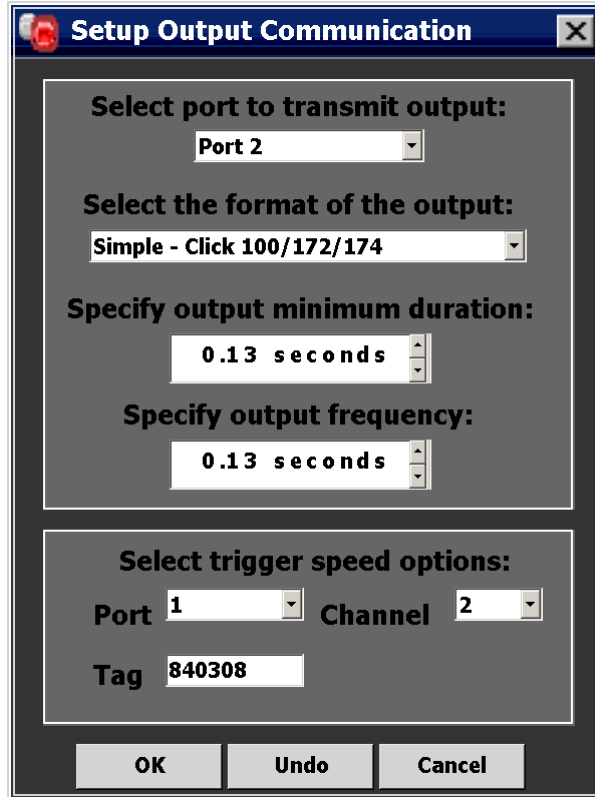

Figure 8: Wavetronix SmartSensor Advance Setup
4. In the Select trigger speed options area, use the dropdown next to **Port** to select the proper port to monitor for speed. This is usually the port that is not already selected in the top portion of this interface. For example, Figure 8 shows “Port 2” selected in the “Select port to transmit output:” field, so speed trigger port will be “1”).